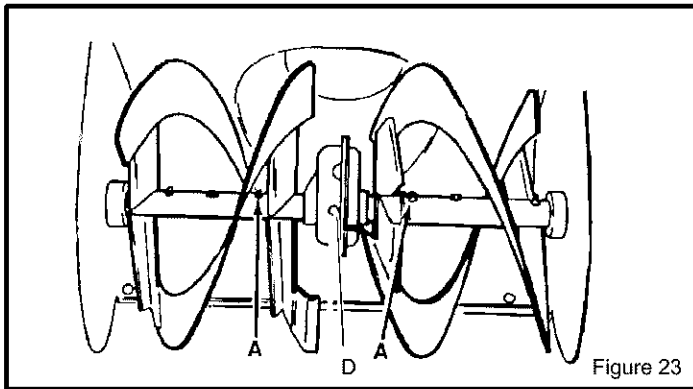
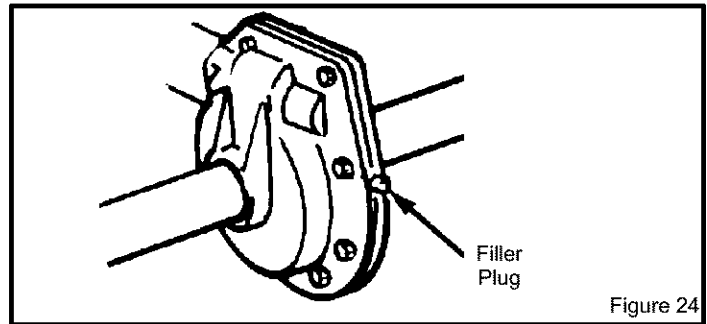

Figure 23
Figure 24
Remove filler plug D (Figure 23 and Figure 24), once a year. If grease is visible, do not add. If grease is not visible, use a piece of fine wire, like a dipstick to check if there is grease in the gear box. Mobilux EP1 and Shell Aldania EP1 are suitable equivalents.
1. **Auger Shaft** – Using a hand grease gun, lubricate the auger shaft zerk fittings (A) every ten (10) operating hours. Each time a shear bolt is replaced, the auger shaft **MUST** be greased (Figure 23). (See To Replace Auger Shear Bolt in the Repair/Adjustment section).